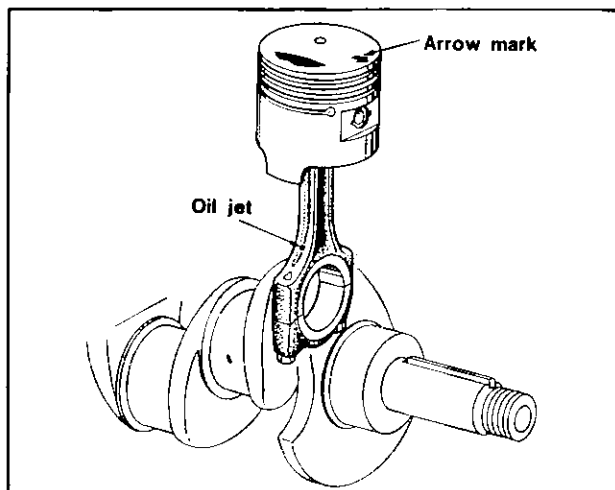

Fig. EM-66 Assembling piston and connecting rod
b. The assembling direction of the piston and the connecting rod is shown in Figure EM-66, ie., arrange so as the "arrow" mark on the piston head is directed toward the engine front.